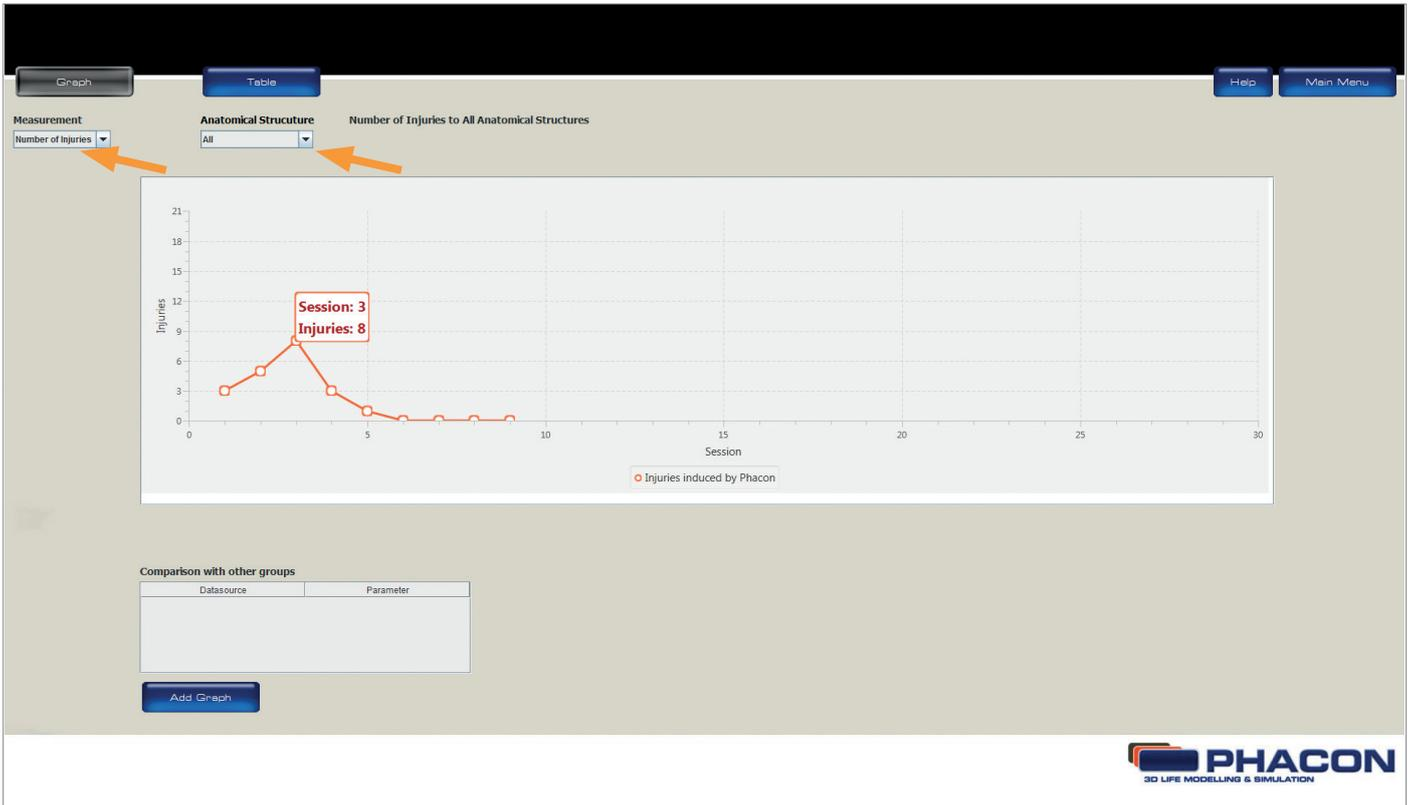

Fig.: 16
- The NUMBER OF INJURIES option will allow access to the ANATOMICAL STRUCTURE drop-down list (Fig.16).